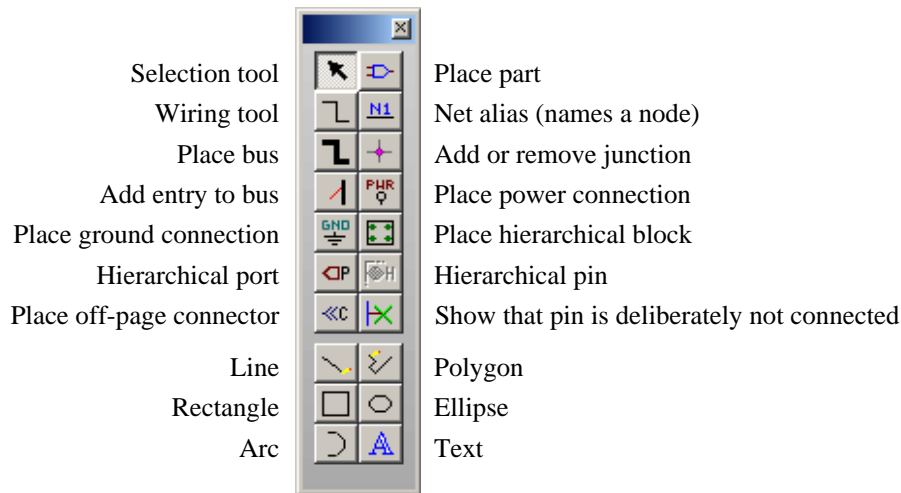

Figure 6: Toolbar for Schematic window in Capture.
3. The third toolbar, down the right-hand side of the screen, is for drawing circuits and is shown only when a Schematic window is active. I've resized it and labelled the buttons in figure 6.